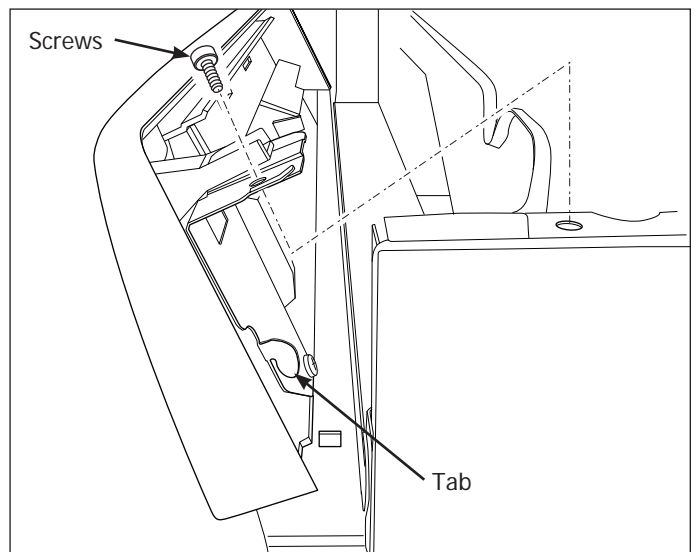

Figure 4-13. Console Removal
3. Extract the two screws with a #2 square bit that secure the console to the cabinet frame. (See Figure 4-13)